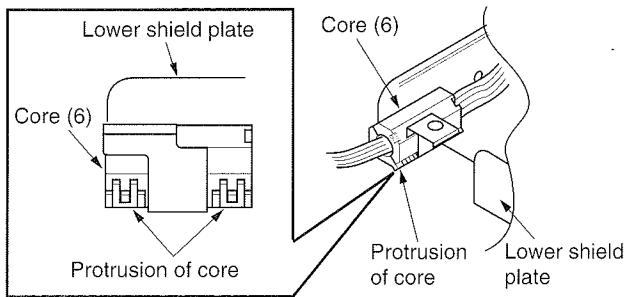

Fig. 2-9
- The core (6) has a mounting direction. So take care for the direction. (Refer to Fig. 2-9.)